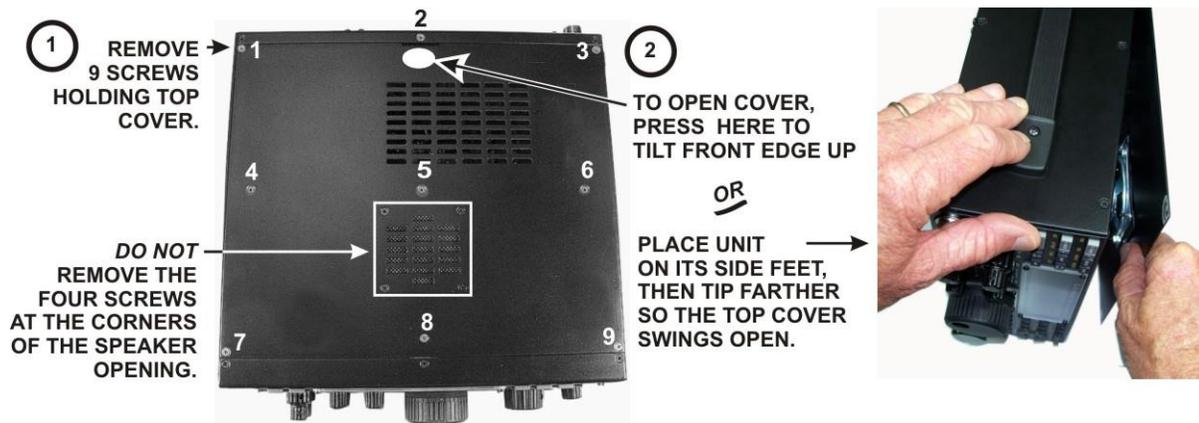

Figure 1. Removing K3 Top Cover.
- Remove the nine screws to free the top cover as shown in Figure 1. After the cover is open, lift it gently to reach the speaker wire connector. Unplug the speaker then set the top cover aside in a safe place.
- Position the top cover on the K3. Note that the tab on the back center goes under the rear lip of the K3 rear panel. Secure the top cover with the nine 4-40 3/16" (4.8 mm) black flat head screws you removed earlier (see Figure 1 on page 6 for the screw locations).